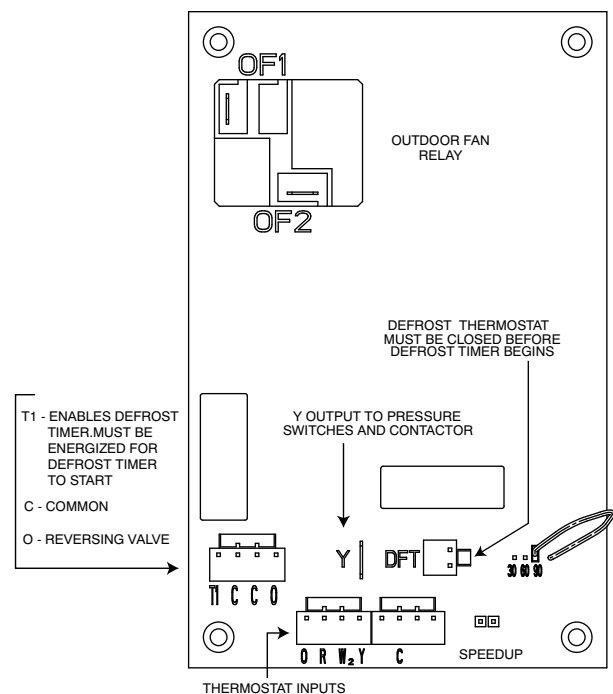

Fig. 10 – HK32EA001/007 Defrost Control
4. Jumper between DFT and R terminals on control board as shown in Fig. 10.